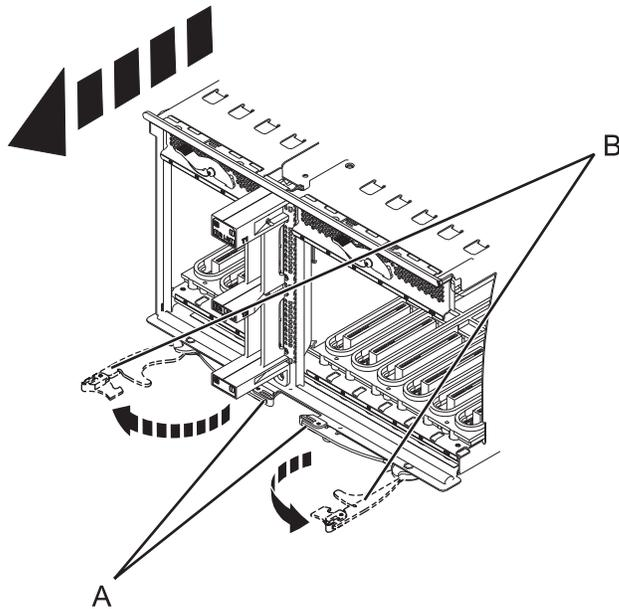

Figure 98. Removing the I/O system board
11. Squeeze the release latches (**A**) and pull the levers (**B**) out away from the system, as shown in Figure 98.